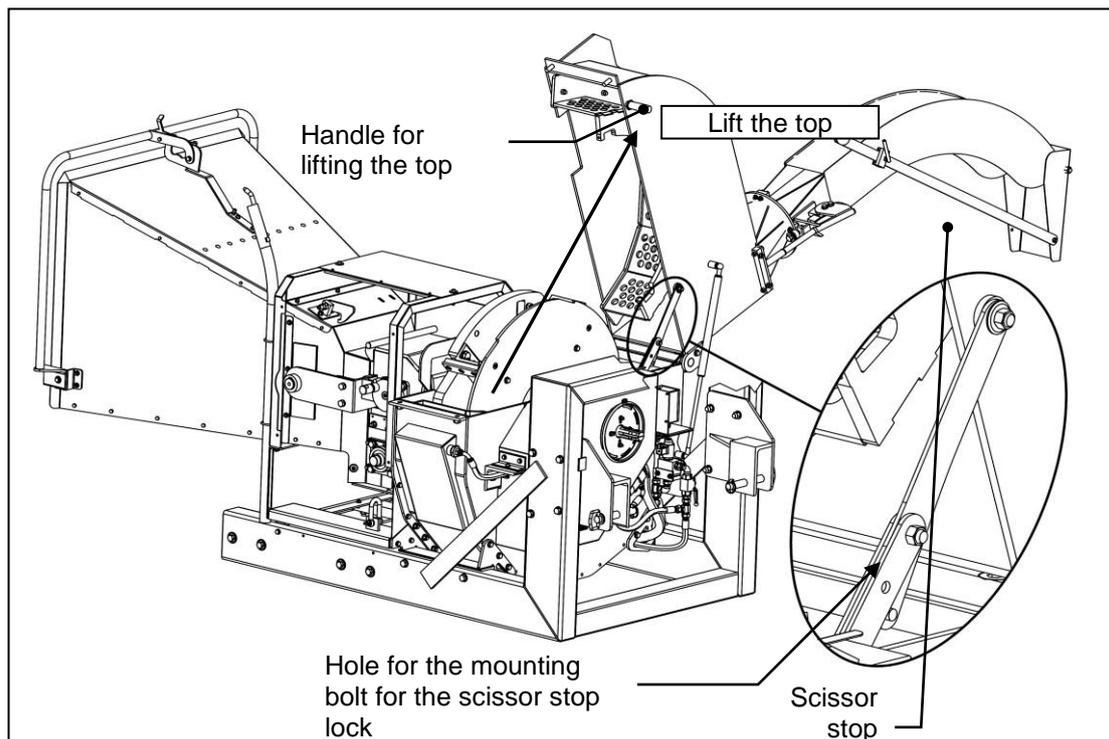

Figure 23: Opening the machine 2 - Lift the top and insert a bolt in the scissor stop if necessary.
6. The top of the rotor housing can now be opened by grasping the handle on the top and lifting. See Figure 23.